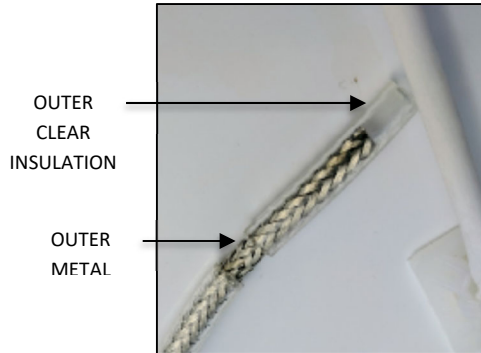
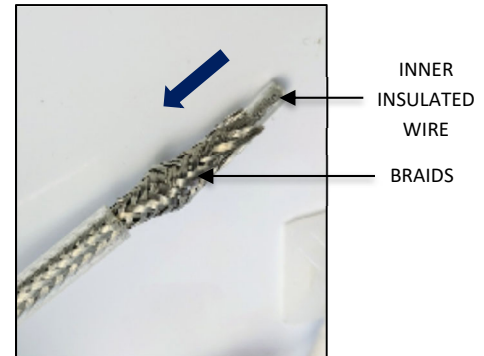

FIG. 22
FIG. 23
1. Strip off 1.00" of outer clear insulation exposing the outer metal braiding as shown in FIG. 22 below. **Be careful not to cut or damage the outer metal braiding.** Gently push braiding down to loosen the individual braids exposing the inner insulated wire as shown in FIG. 23 below.